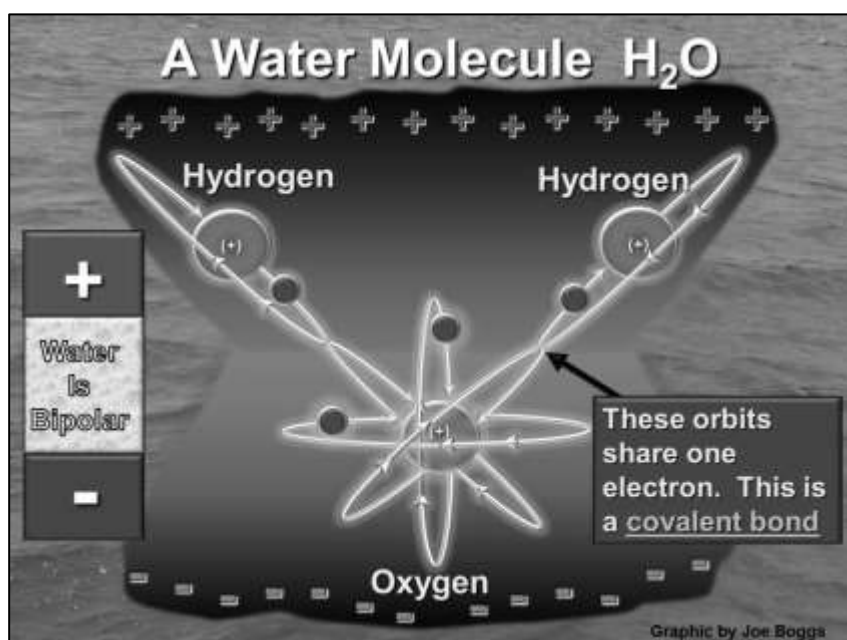

Figure 17: A Water Molecule
Figure 17 illustrates that a water molecule consists of an oxygen atom (O) that is attached to two hydrogen atoms (H₂), so the chemical formula for the water is H₂O. The oxygen atom is an anion; it has a negative electrical charge. The hydrogen atom is a **cation**; it has a positive electrical charge. While the H and O atoms are attracted to one another because they have opposite charges, the water molecule is held together by